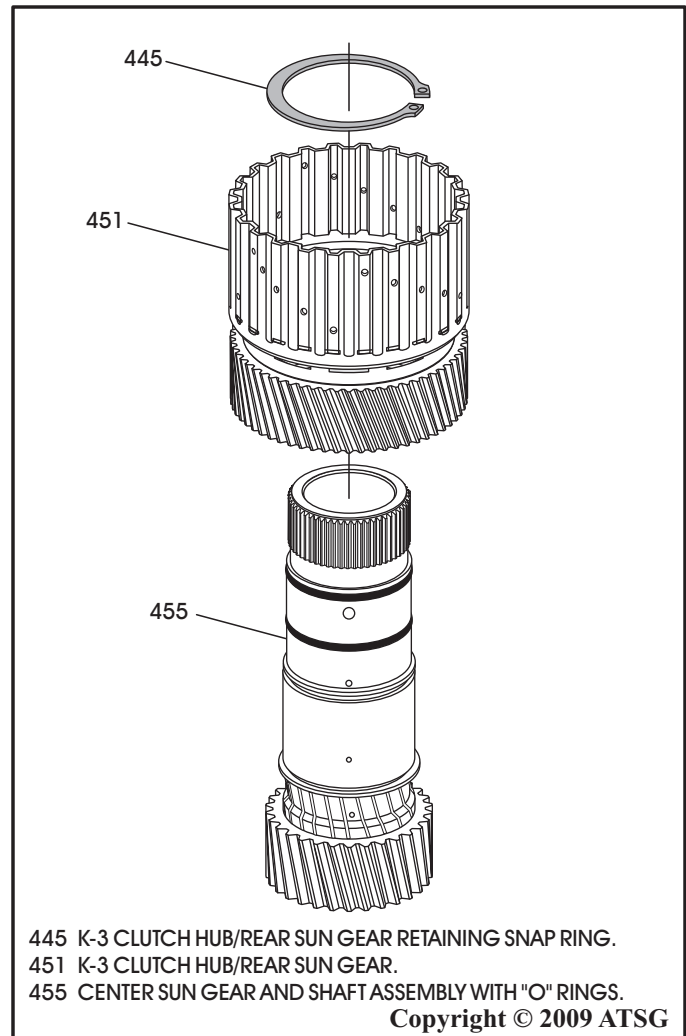

Figure 129
9. Install the K-3 clutch hub/rear sun gear onto sun gear shaft using counter-clockwise motion, as shown in Figure 129.
11. If you have the late ball bearing style, simply install the snap ring, as shown in Figure 129.